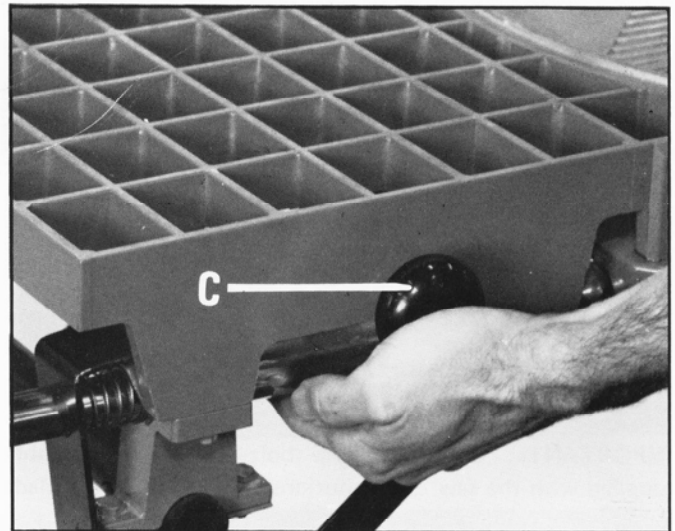
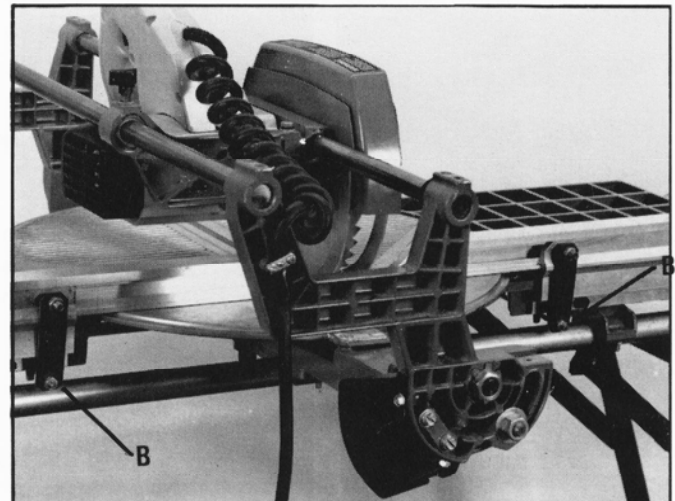

Fig. 44
Fig. 45
During operation both fence halves must be clamped to the table by pushing in on the fence locking knob (C) Fig. 44. If an adjustment to the clamping action of the fence is necessary, slightly tighten or loosen the two nuts (B) Fig. 45.